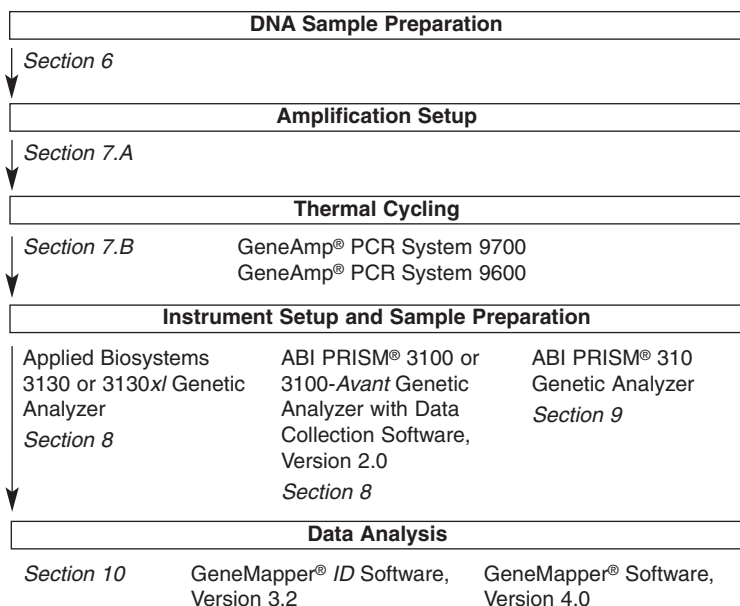

Figure 2. An overview of the StemElite™ ID System protocol.
Figure 2 outlines the StemElite™ ID System protocols in this manual. Briefly, DNA is isolated from cells, quantitated and added to a master mix containing the StemElite™ ID 10X Primer Pair Mix, StemElite™ ID 5X Enzyme Mix and Water, Amplification Grade. PCR is performed, and ILS is added to the amplified product. The alleles are resolved using capillary electrophoresis (CE), and CE data are analyzed using genotyping software and the parameters given on the Promega web site at: www.promega.com/stemelid/. This site provides instructions and applications to set the report parameters in the GeneMapper® or GeneMapper® ID software to make genotyping easier and more accurate.